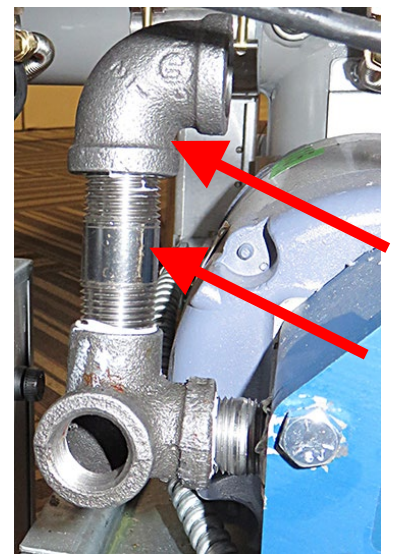

Figure 21
23. Apply Loctite to both ends of the 2" nipple (8130298). Insert the nipple into the top of the elbow, attached to the pump, in the previous step (see Figure 21).
24. Attach the 90° elbow (8130062) to the top of the nipple in the previous step. Tighten and orient as shown (see Figure 21).